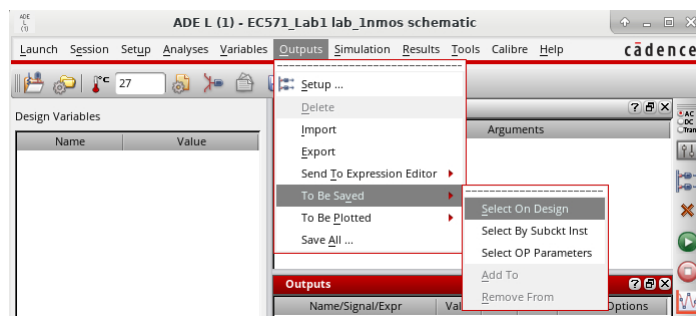

Figure 22: Opening output plot selection
- To see the waveform, in the “ADE L” window, go to Output → To Be Saved → Select on Design (Figure 22). In the schematic window, click on the drain node of NMOS. In the “Outputs” panel